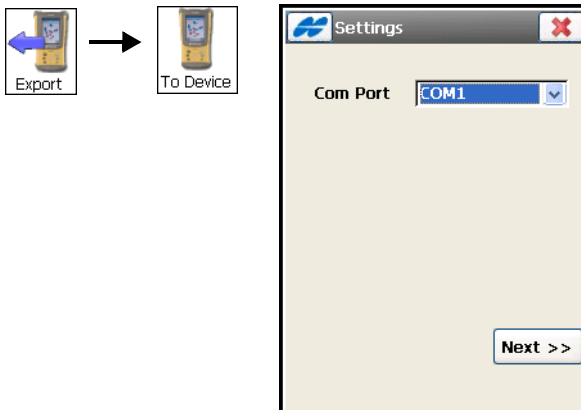

Figure 5-26. Import/Export Settings
2. On the *(Import/Export) Settings* screen (Figure 5-26), select the means of connection using the **Com Port** drop-down list, then tap **Next**. The *Select file* screen displays (Figure 5-26).